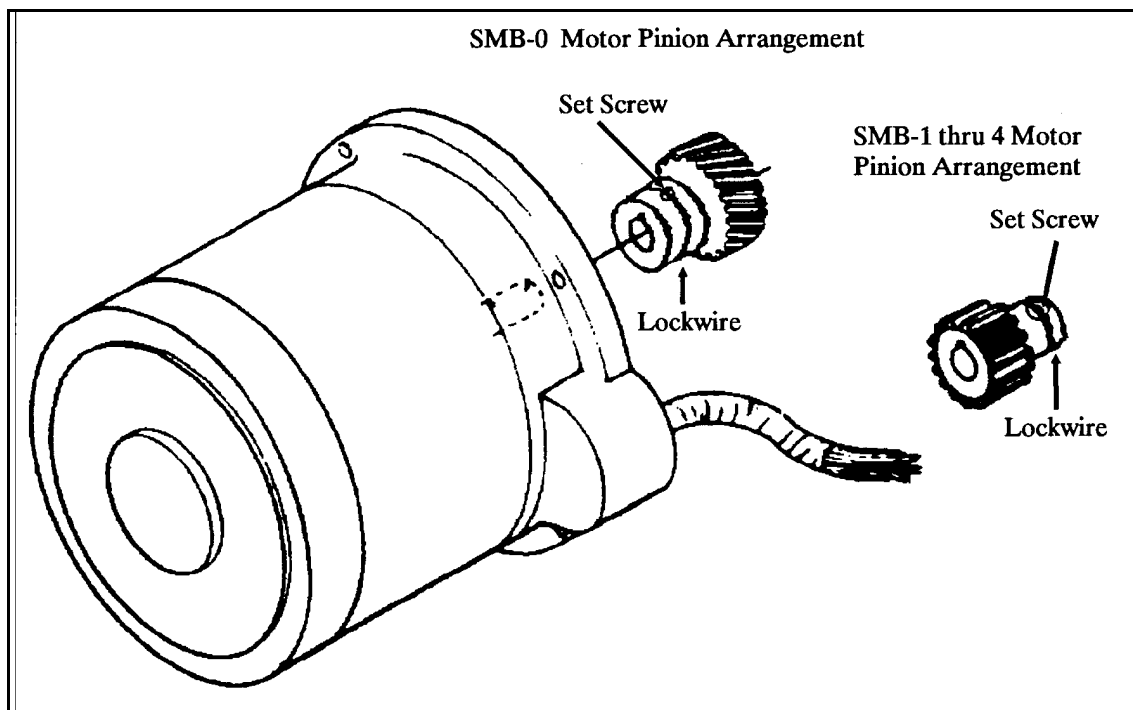

Figure 6-21 Motor Pinion Arrangement
37. Motor Bearing and Pinion Checkout Refer to Figure 6-21